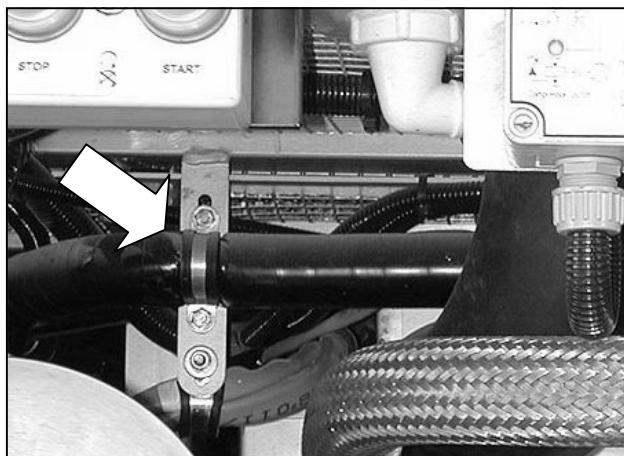

Figure 10: LH discharge line support bracket next to engine
- 3) At the LH discharge line support bracket (see Figure 10), undo and remove the bolts, nuts, washers and hose clamp securing the tubing to the chassis. Recover the clamp and fasteners.